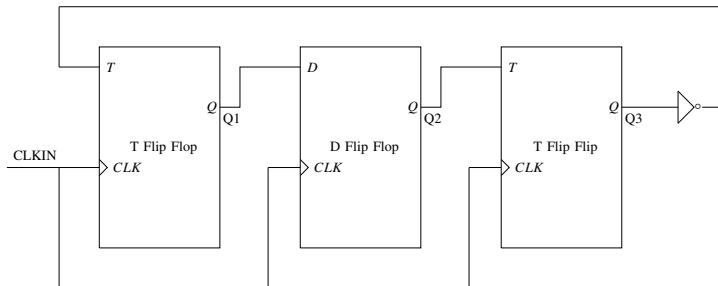

Fig. 5.9
9. Consider a sequential digital circuit consisting of T flip-flops and D flip-flops as shown in Fig. 5.9. CLKIN is the clock input to the circuit. At the beginning, Q_1, Q_2 and Q_3 have values 0, 1 and 1, respectively. Which of the given values of (Q_1, Q_2, Q_3) can NEVER be obtained with this digital circuit? (GATE CS 2023)